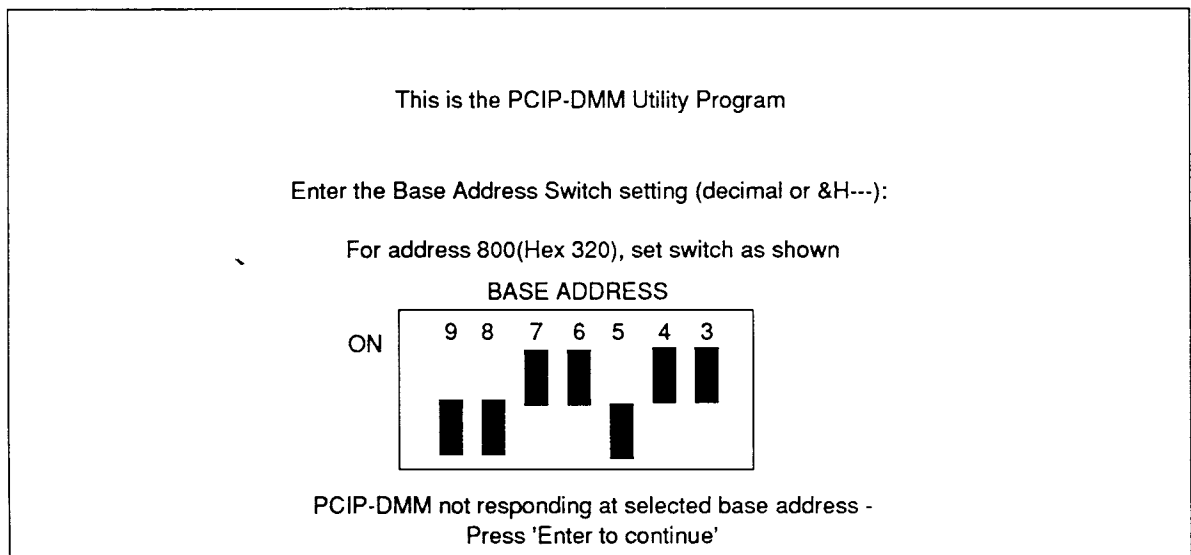

Figure 3-15 Utility Program Start-Up Screen
2. The program will respond with by displaying the first 2 lines of Figure 3-15. Enter the appropriate Base Address setting using the appropriate format. Only Base Addresses greater than or equal to 256 decimal (100 hex) are valid. If an invalid base address is entered, a beep sounds and a base address is prompted for again. If a hex value is given in an unrecognizable format (Valid format is **&H???**), the following error message appears: